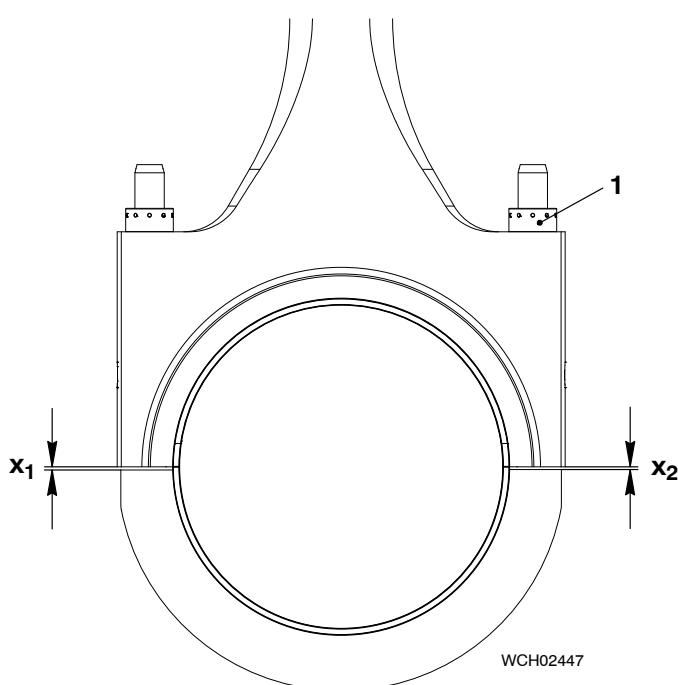

Fig. 13
- 9) Put the round nuts (1, Fig. 13) on the elastic studs.
- 10) Tighten the round nuts (1) equally with a round bar.